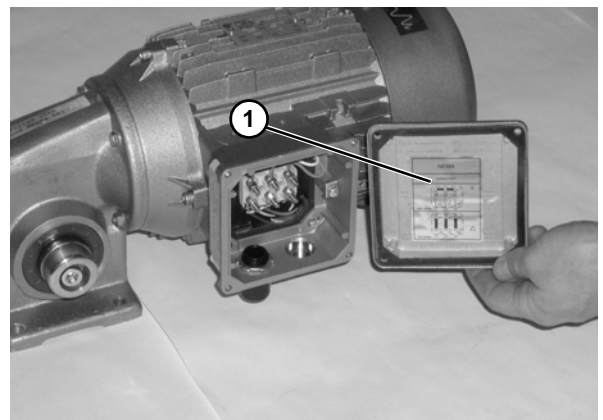

Figure 23
2. Refer to the wiring diagram (Figure 23, item 1) on the inside of the junction box cover.